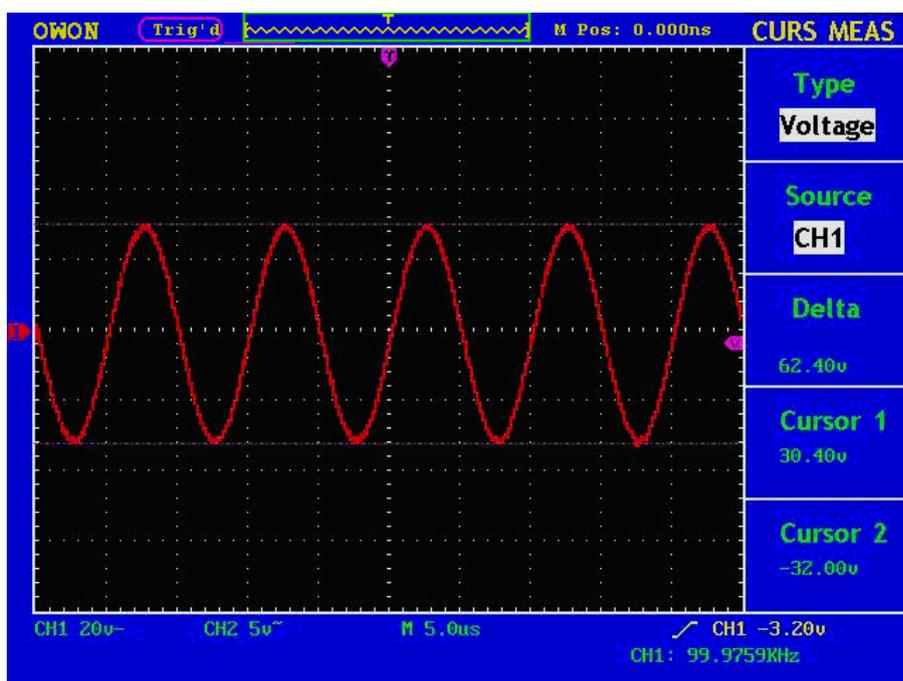

Fig.5-46 Waveform of Voltage Cursor Measurement
4. Adjust the positions of **CURSORM1** and **CURSORM2** according to the measured waveform, with the absolute value of the voltage amplitude difference between Cursor 1 and Cursor 2 displayed in the increment window. The current position of Cursor1 is displayed in the Cursor1 window and that of Cursor2 is displayed in the Cursor2 window (see **Fig.5-46**).